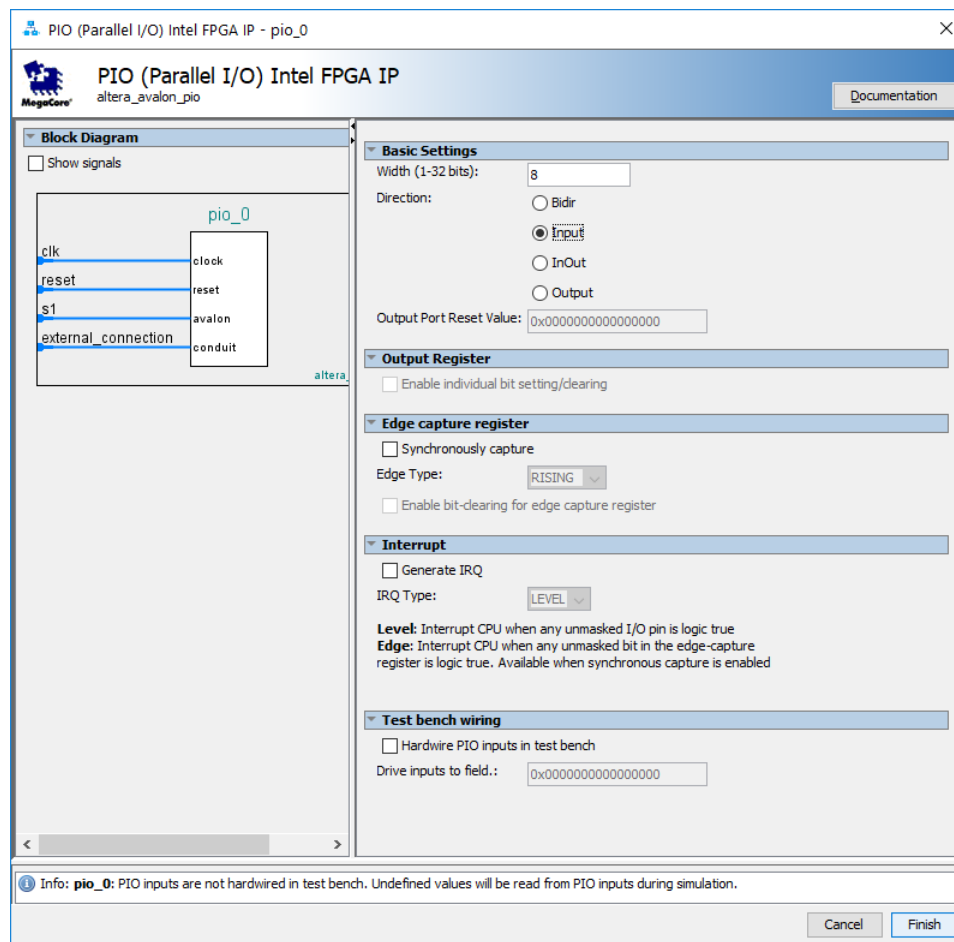

Figure 11. Define a parallel input interface.
- From the IP Catalog, select Processors and Peripherals > Peripherals > PIO (Parallel I/O) Intel FPGA IP and click Add to reach the PIO Configuration Wizard in Figure 11